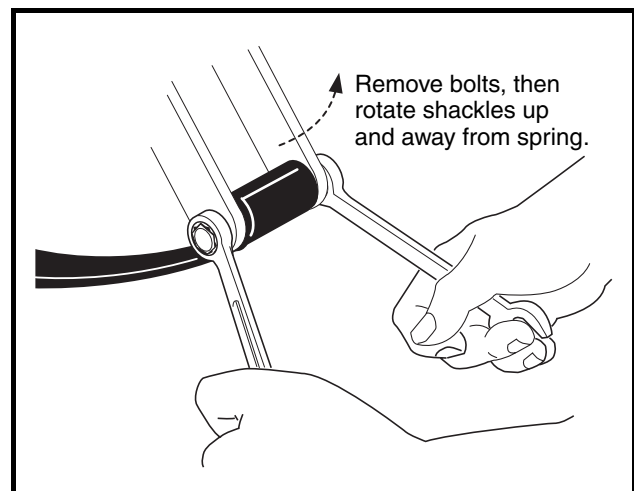

Figure 28-9 Shackles
7. With a floor jack supporting the transaxle, remove lower spring shackle nuts and bolts. Position shackles so they are clear of springs (**Figure 28-9, Page 28-5**).